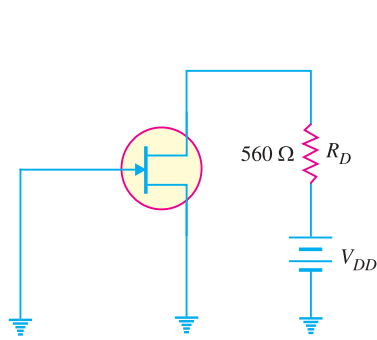

Fig. 19.15
**Example 19.4.** For the JFET in Fig. 19.15,  $V_{GS(off)} = -4 \text{ V}$  and  $I_{DSS} = 12 \text{ mA}$ . Determine the minimum value of  $V_{DD}$  required to put the device in the constant-current region of operation.